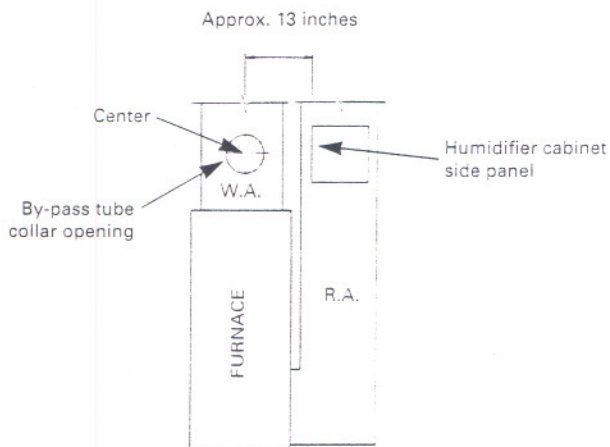

FIG. 4
2. The center of the by-pass tube collar opening must be approximately 13 inches from the humidifier cabinet side panel (Fig.4). However, if the dis-